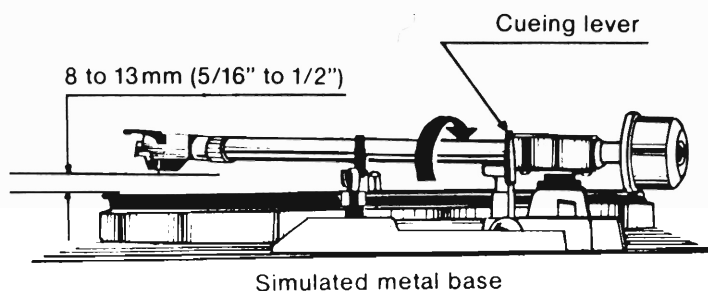

Fig. 2
- * If, for any reason, it is not correct, turn the adjusting screw clockwise or counterclockwise while pushing down on the arm lift (See Figs. 2 and 3).